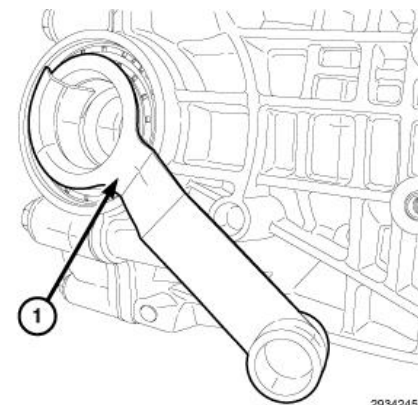

Figure 27 – Axle Seal Protector 10270
11. Using axle seal protector 10270 (1), install halfshafts in the axle. Verify halfshaft has engaged (Figure 27).